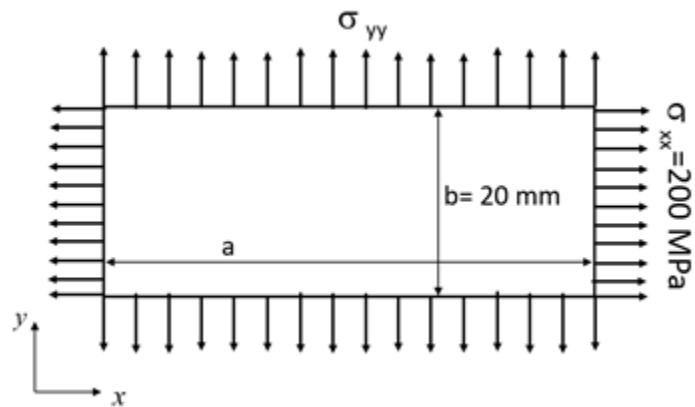

Figure 2
- (b). A small thin rectangular plate as shown in **Figure 2** is made of metal with $E=110$ GPa and $\nu=0.32$. Stress components σ_{xx} and σ_{yy} are uniformly distributed as shown in the figure. Determine: